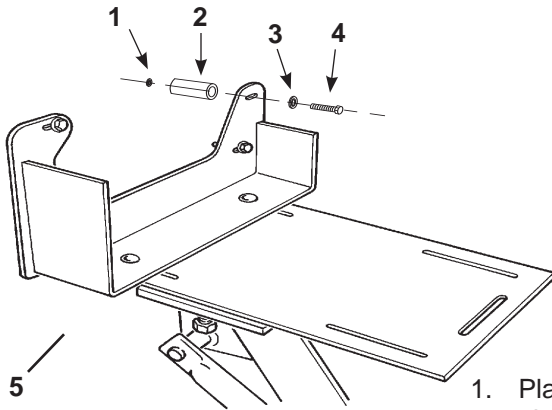
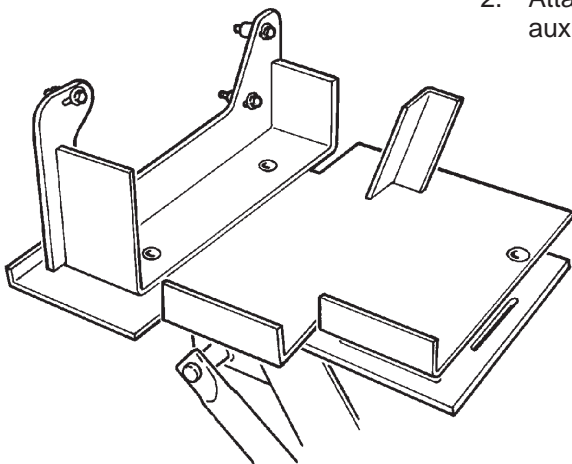

Figure 1
Figure 2
1. Place the auxiliary housing adapter (No. 49611) on top of the jack's mounting plate as shown in Figure 1 or 2. (Figure 2 shows the adapter attached to OTC No. 220492 transmission adapter plate.) Secure the adapter with the bolts that were supplied with the jack.